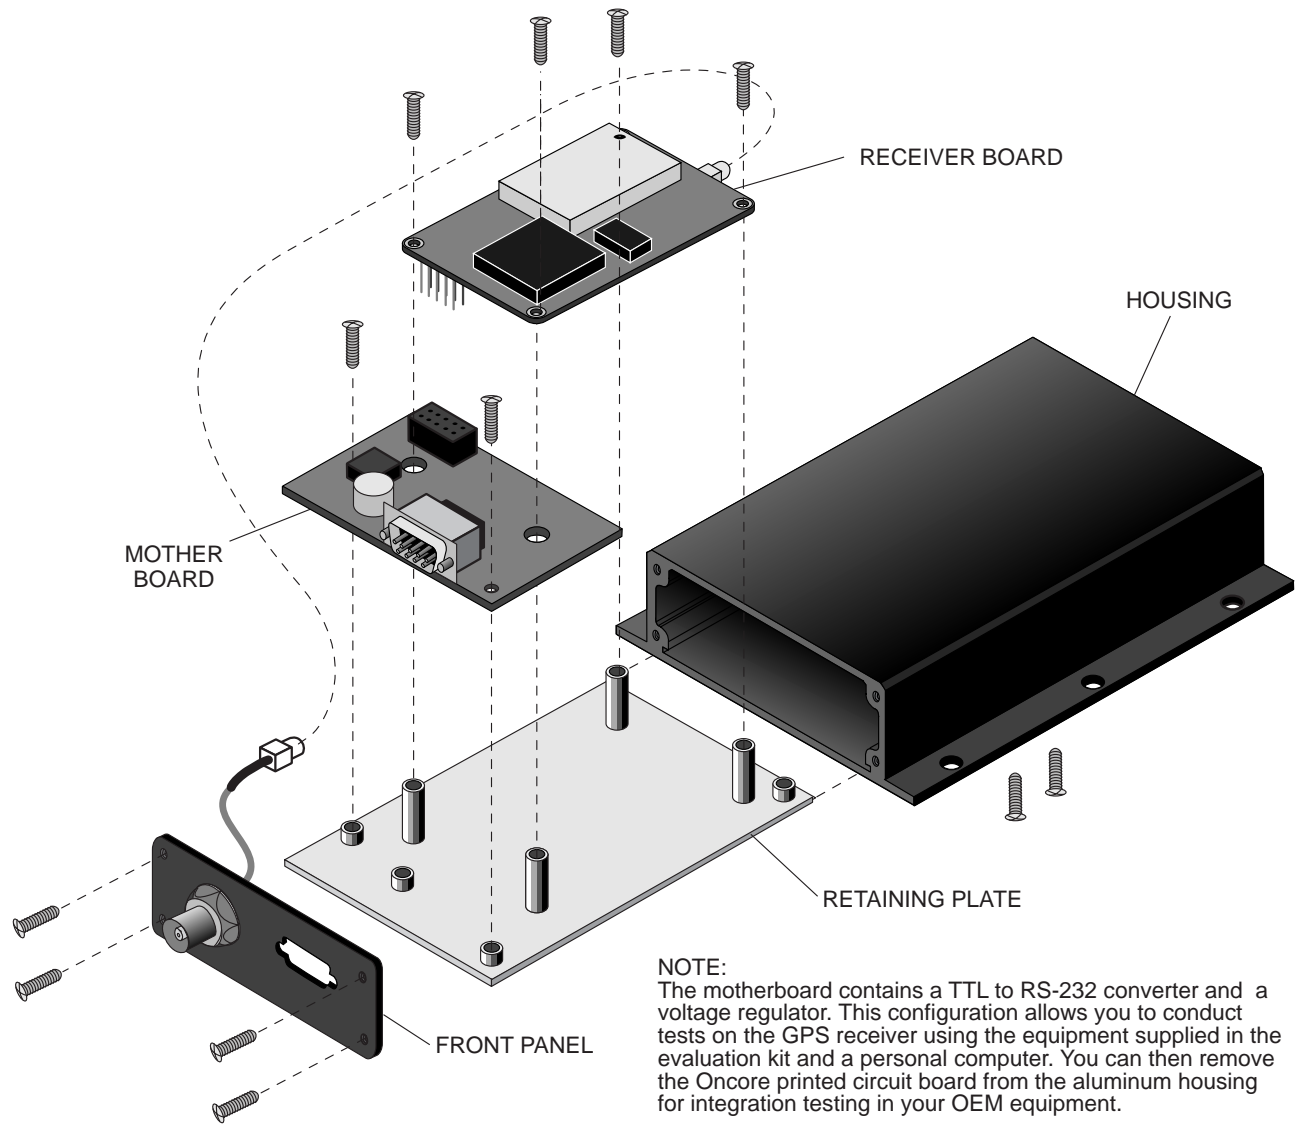

Figure 7.1: Oncore Evaluation Module Exploded View
- 8-parallel channel Oncore GPS receiver mounted on a motherboard inside an aluminum housing (see Figure 7.1 for an exploded view).